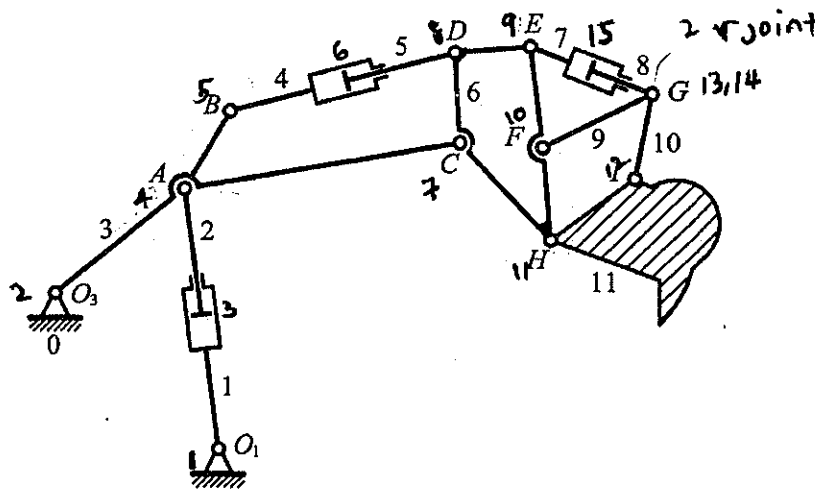

Figure 1
- (a) A linkage mechanism for the digging equipment is shown in Figure 1. Note that points O_3, ABC are all on the same link 3; Points $CDEFH$ are all on the same link 6.